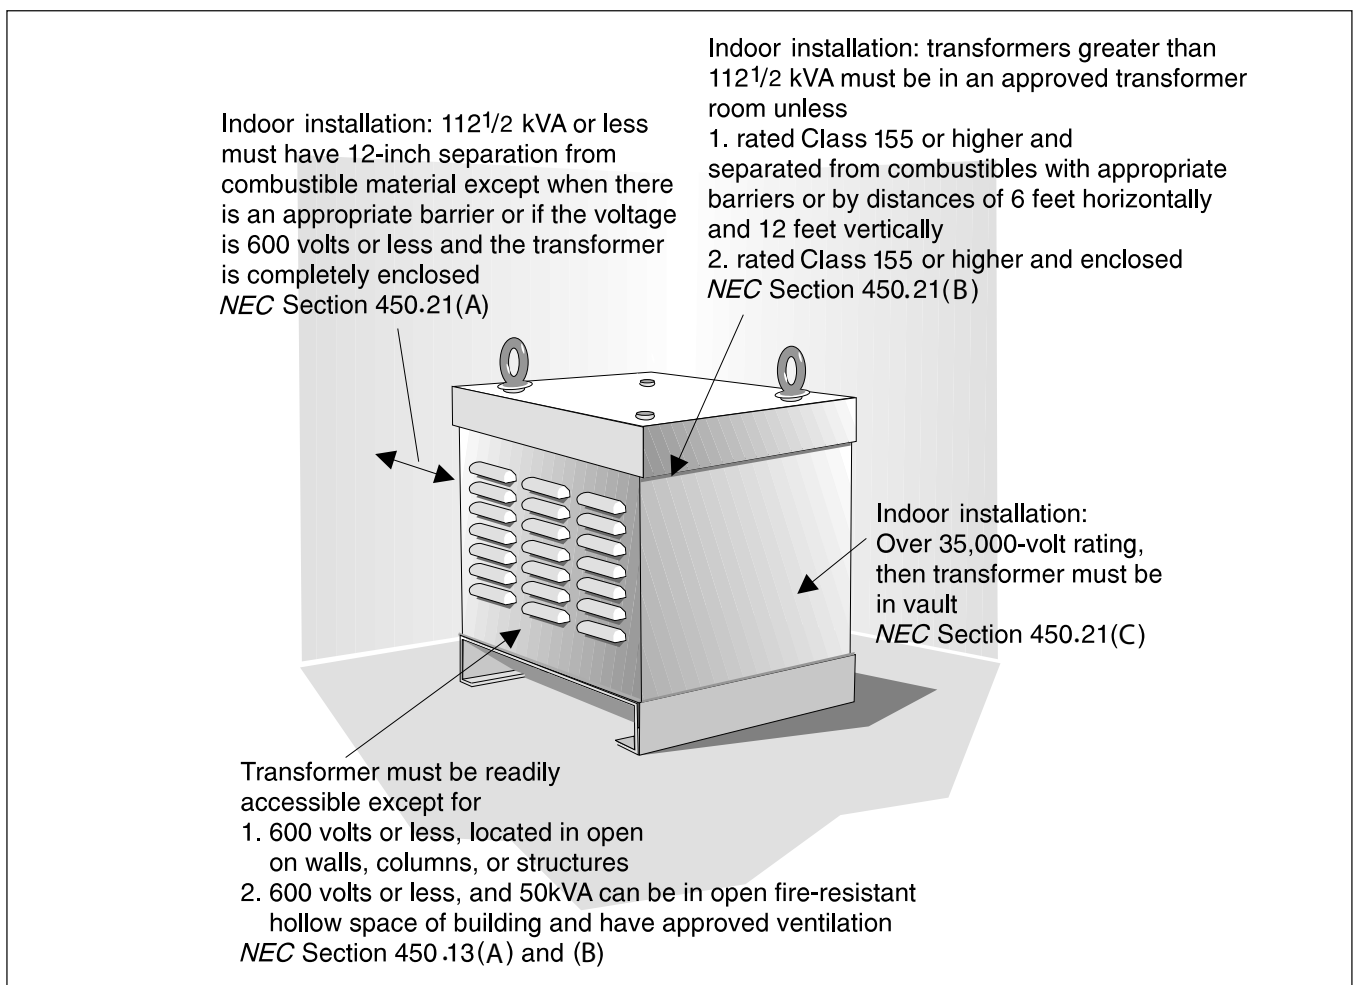

Figure 12-3: NEC installation requirements for dry-type transformers
The transformer must be rated at Class 155 insulation or higher and be separated from combustibles with appropriate barriers or by distances of 6 feet horizontally and 12 feet vertically. NEC Section 450.21(B). See Figure 12-3.
NEC Section 450.13(A) does not require dry-type transformers to be readily accessible if the conditions in Answer D are met. See Figure 12-3.